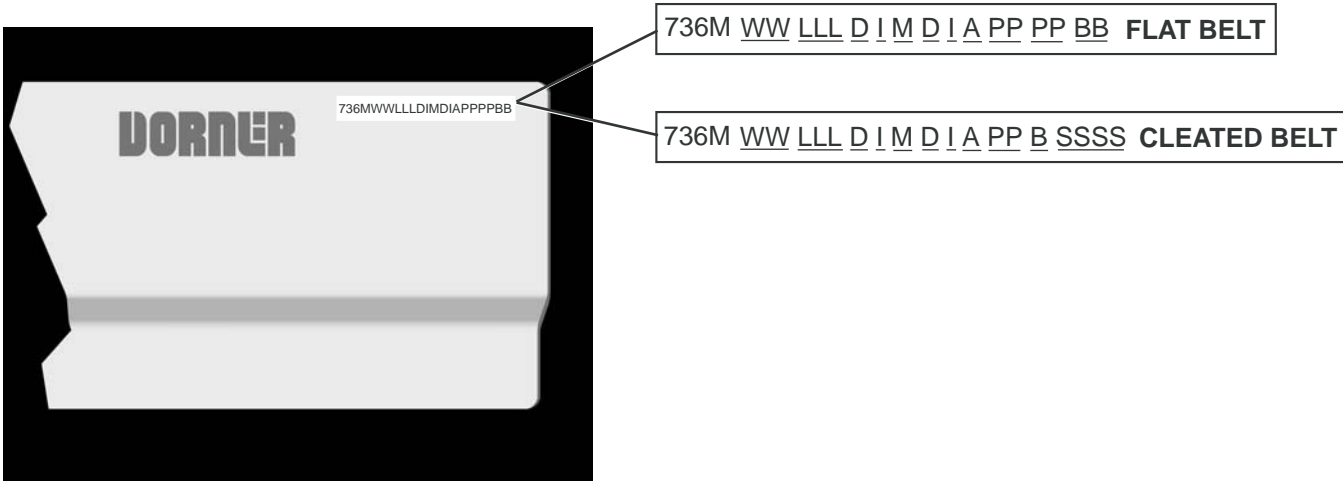

Figure 64
Refer to model number on the conveyor frame (Figure 64). From the model number determine the conveyor width (WW), length (LLL), drive/tail types (A) and belt type (BB). Use data to configure belt part number as indicated below. \*Add "V" for v-guided belts.
Refer to model number on the conveyor frame (Figure 64). From the model number determine the conveyor width (WW), length (LLL), cleat type (C) and cleat spacing (SSSS). Use data to configure belt part number as indicated below. \*Add "V" for v-guided belts.